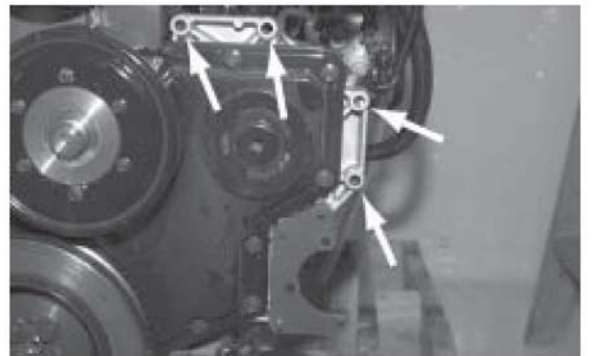

Figure 3
a. Attach the vacuum pump/bracket assembly to the rear of the gear housing using the four M8 x 45mm capscrews supplied in the vacuum kit. Reference gear housing holes in figure 3.